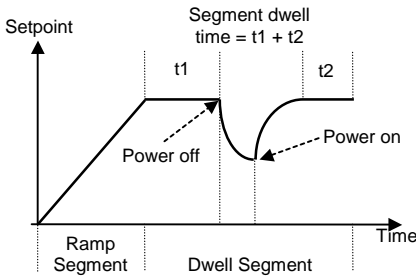
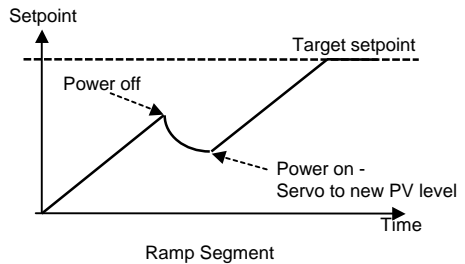

Figure 5-2 Continue after a power fail
Figure 5-3 Ramp back after a power fail
*If 'rmpb' is selected*, then when power is restored the setpoint starts at ('servos to') the current measured value, and then ramps to the target setpoint of the active segment at the last ramp rate used by the program. This strategy provides a smoother recovery. The two diagrams below illustrate the respective responses, Fig 5-2 if power fails during a dwell segment and Fig 5-3 if it fails during a ramp segment.